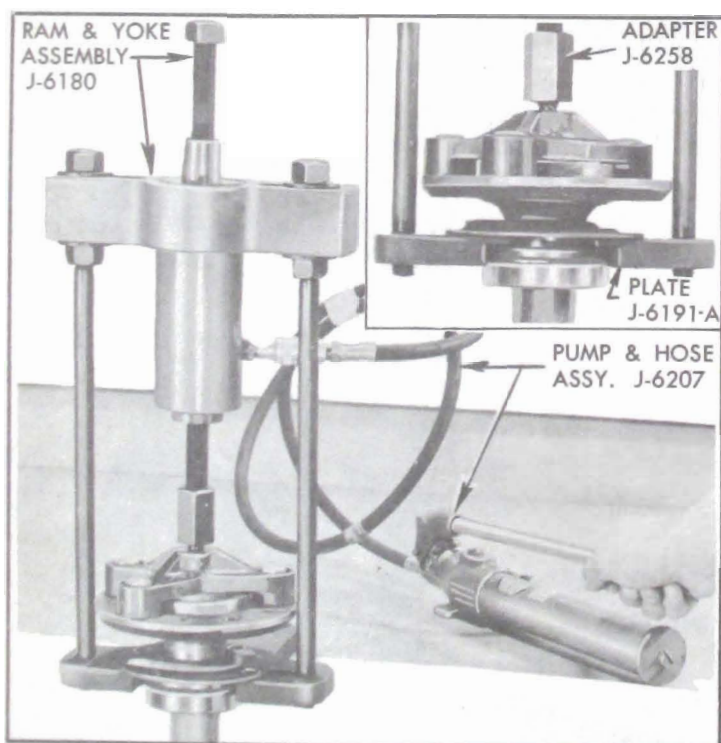

Figure 6-6—Removing Rear Wheel Bearing
2. Press the wheel bearing off, using Plate J-6191-A either in a press or in a set-up using Ram and Yoke Assembly J-6180 and Adapter J-6258 as shown in figure 6-6.